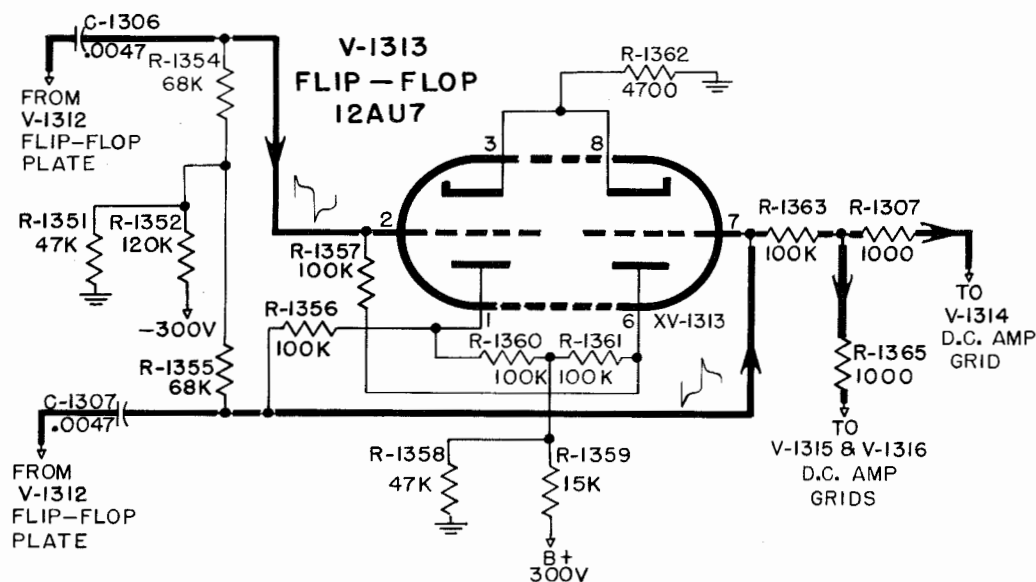

Figure 2-53. Flip Flops V-1313, V-1321, Simplified Schematic Diagram
(15) FLIP-FLOPS, V-1313 AND V-1321 (CM-32/FRR-24). (See Figure 2-53).—The following description of second flip-flop V-1313 is also applicable to the other second flip-flop V-1321.